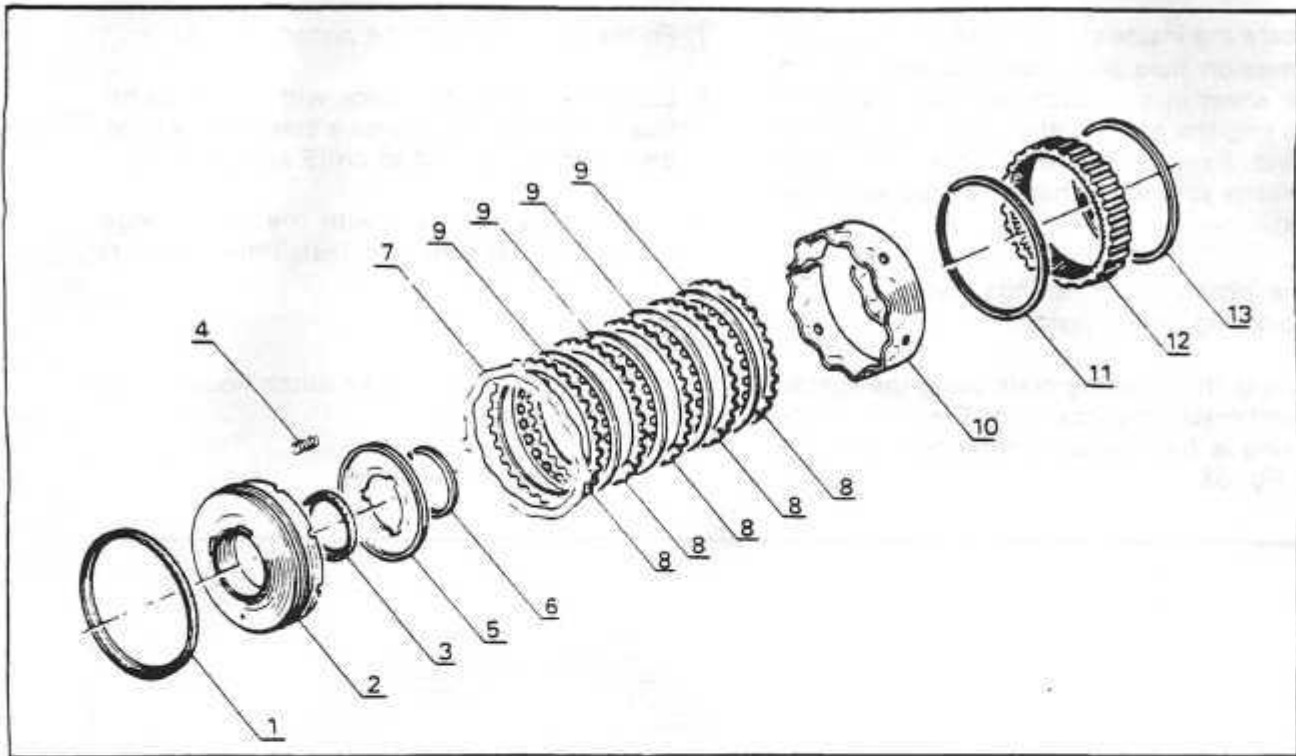

Fig. 60
CLUTCH C-2 — Fig. 60
7. Fit the wave plate on the piston. *Fig. 60*